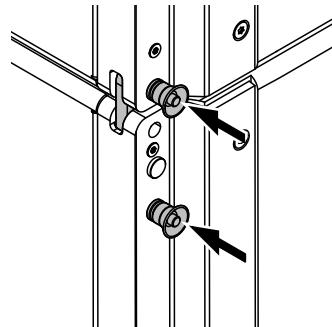

Fig. 2: SUB to SUB 0° splay
2. SUB to SUB with 0° splay between the cabinets (⇒ Fig. 2).